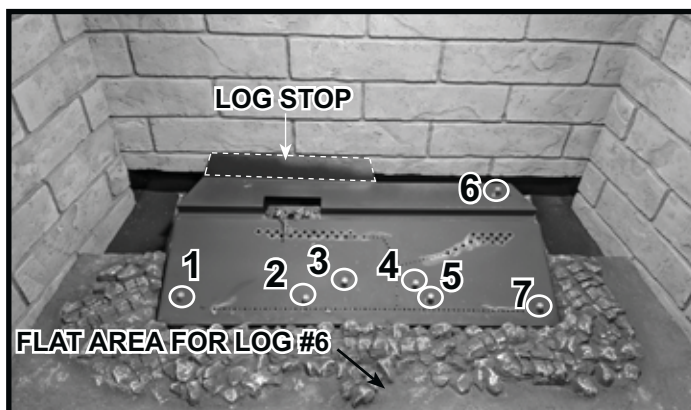
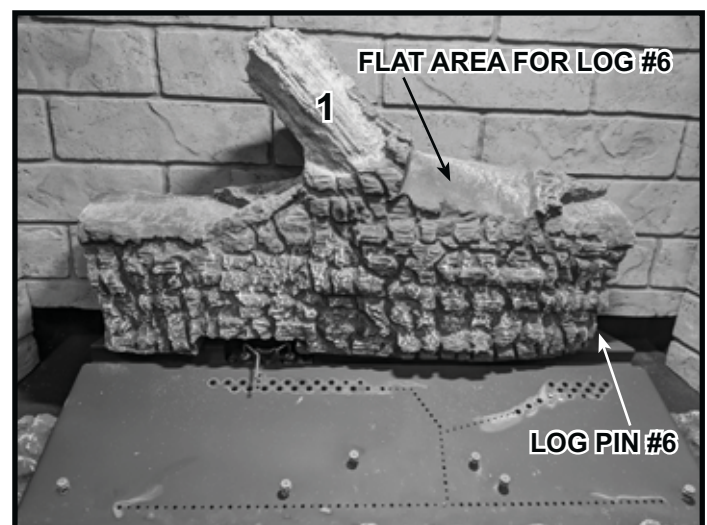

Figure 4 Locations for Log Pins
Figure 5 Position Log #1
**Log #1:** Place Log #1 as shown in Figure 5. The right end touches Log Pin 6. Push the log back until it rests against the log stop shown in Figure 4.